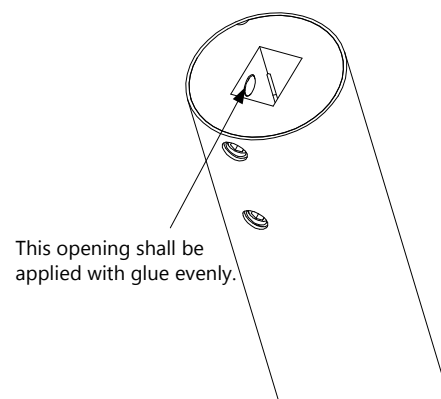

Figure 2-1
1. Open the glue and apply in the square openings of the arms as well as the four countersunk screws, as shown in figure 2-1. (This is to prevent screws from getting loose due to vibration after being used for a long time.)